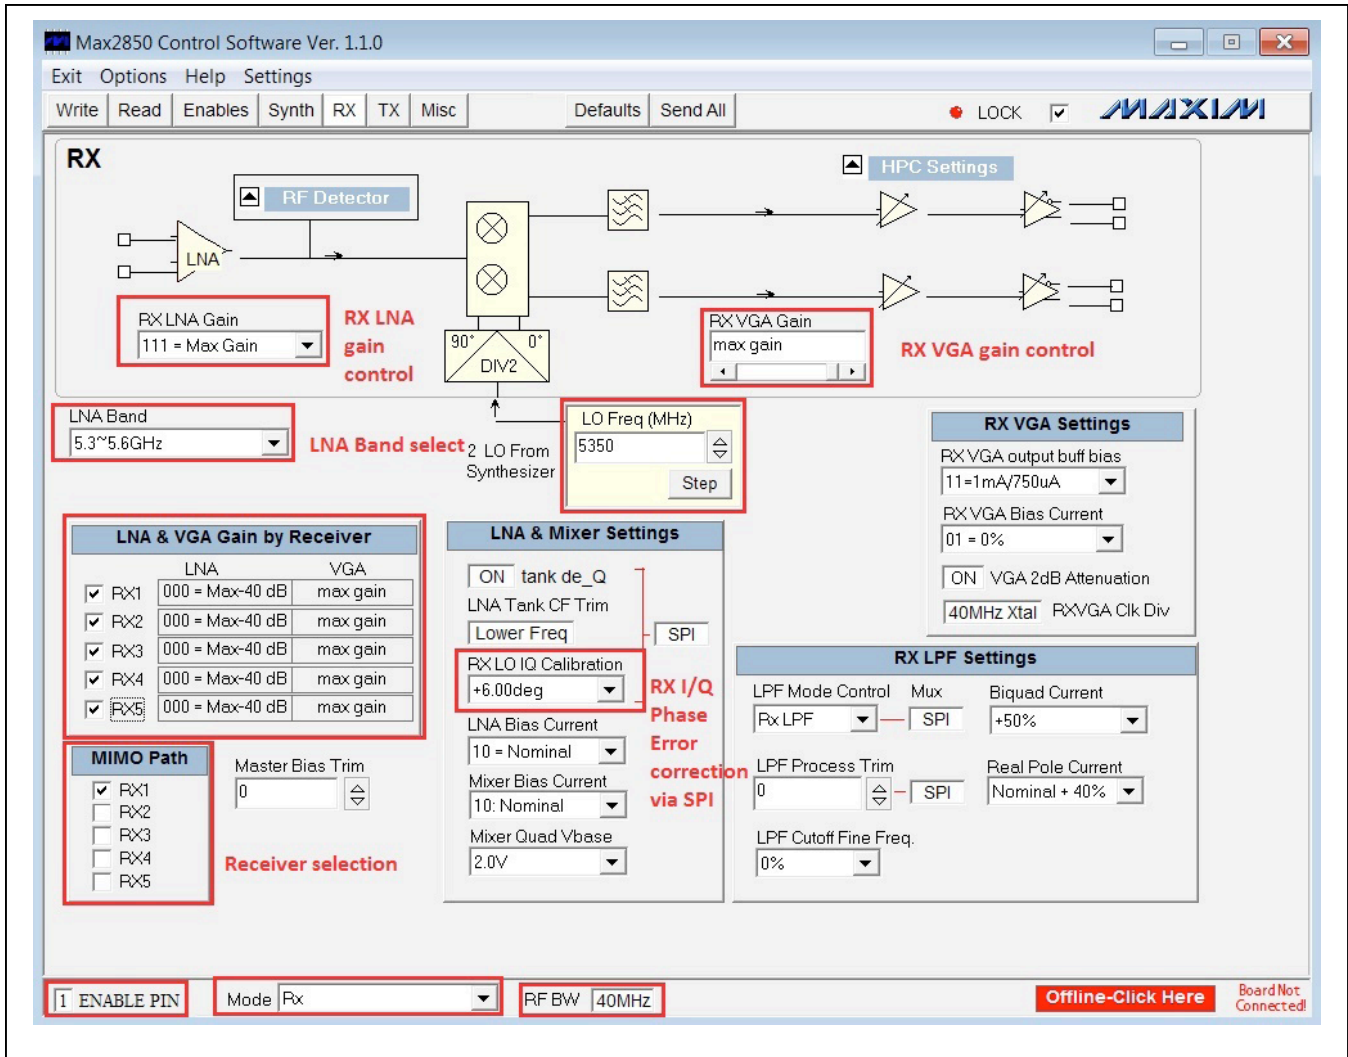

Figure 4. MAX2851 Control Software—RX Page
- 5) On the 'TX' page of the EV kit software, using the 'VGA Settings' block shown in Figure 4, maximize the output power by setting 'Attenuation Entry' to 63.